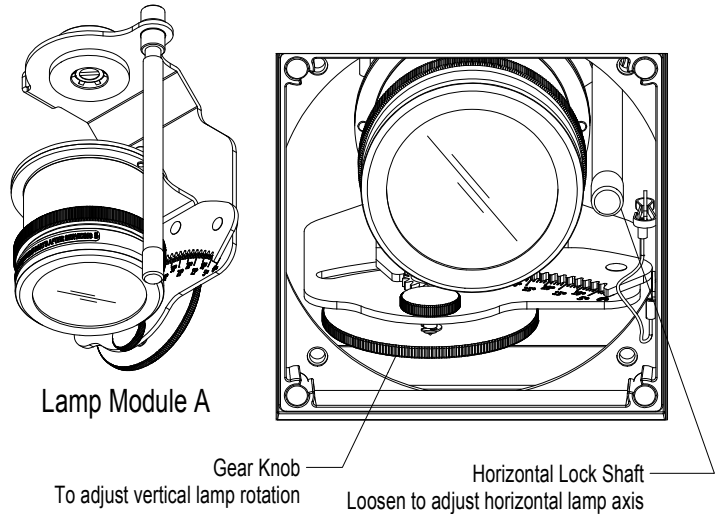

FIG 1.3 Lamp at 0° vertical axis position
Step 1 Loosen Lock Knob/Lock shaft to adjust Lamp Module. Change rotation & lamp aiming angle then lock into position desired - FIG 1.3 & 1.4.